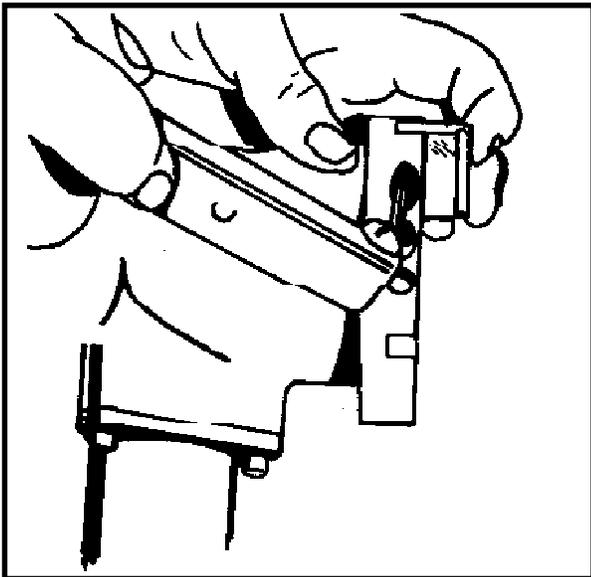

Figure 10
1. Refer to Tool Selection Chart. Install the Facing Tool in the rotating head slot. All tool bits must be installed so the cutting edge will contact the pipe when rotating in a clockwise rotation as seen from the rear of the machine. The tool bits are locked into place with the provided hex key set (Figure 10).